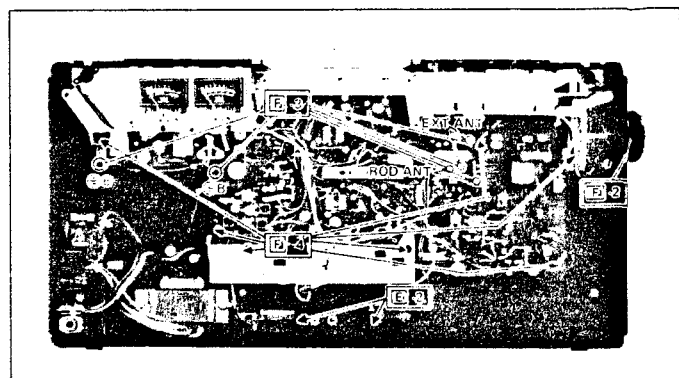

Figure 5
- E PHONO JACK PLATE REMOVAL** (Refer to Figure 5)
2. Remove two (2) screws retaining the phono jack plate.
- F CHASSIS (P.W.B.) REMOVAL** (Refer to Figure 5)
3. Disconnect four (4) tips (Antenna) and two (2) tips (DC supply) connected to the main P.W. board.
4. Remove seven (7) screws retaining the chassis (P.W.B.).